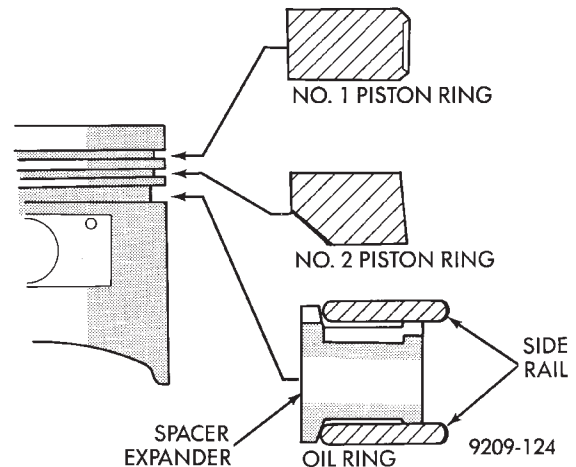

Fig. 12 Piston Ring—Installation
(1) The No. 1 and No. 2 piston rings have a different cross section. Install rings with manufacturers I.D. mark facing up, to the top of the piston (Fig. 12).